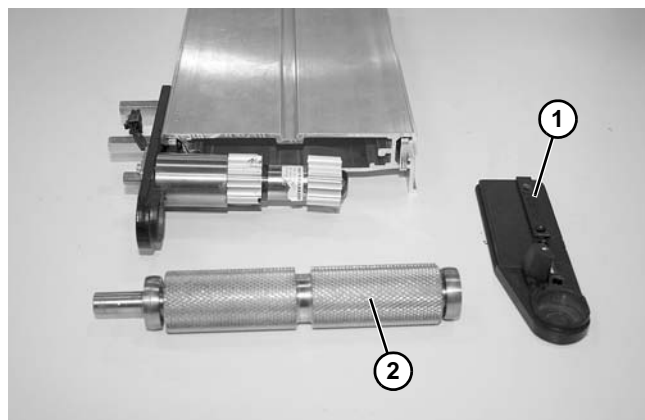

Figure 100
9. Remove head plate (Figure 100, item 1) from frame.
10. Remove and replace spindle (Figure 100, item 2).